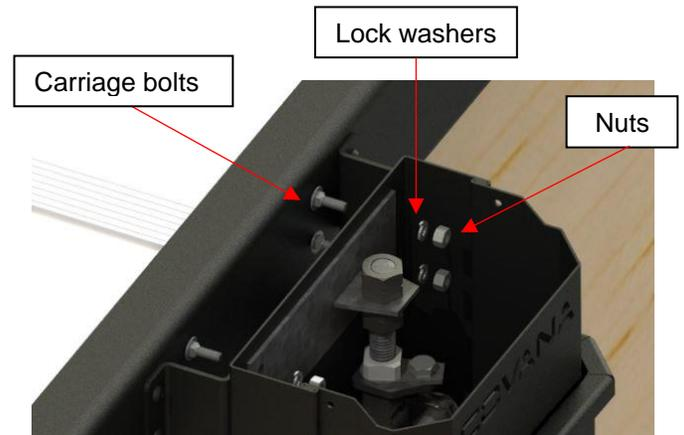

Figure 96
- 16) Slide the sleeves over the top of the jacks and fasten them using the 1/4"-20 x 3/4" carriage bolts at the top with 1/4" lock washers and 1/4-20 nuts. Use a 7/16" (11 mm) socket and spanner. Repeat this step for all four jacks (Figure 96).